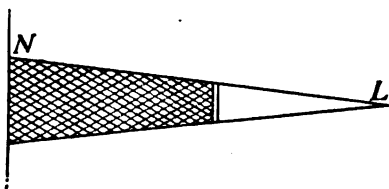

FIG. 346.—Shadow from a small source of light.
**355. Shadows.**—A shadow is the *space* from which light is cut off by an opaque body. Thus if a book (see Fig. 346) is held between a screen, *N*, and a *small* source of light, *L*,